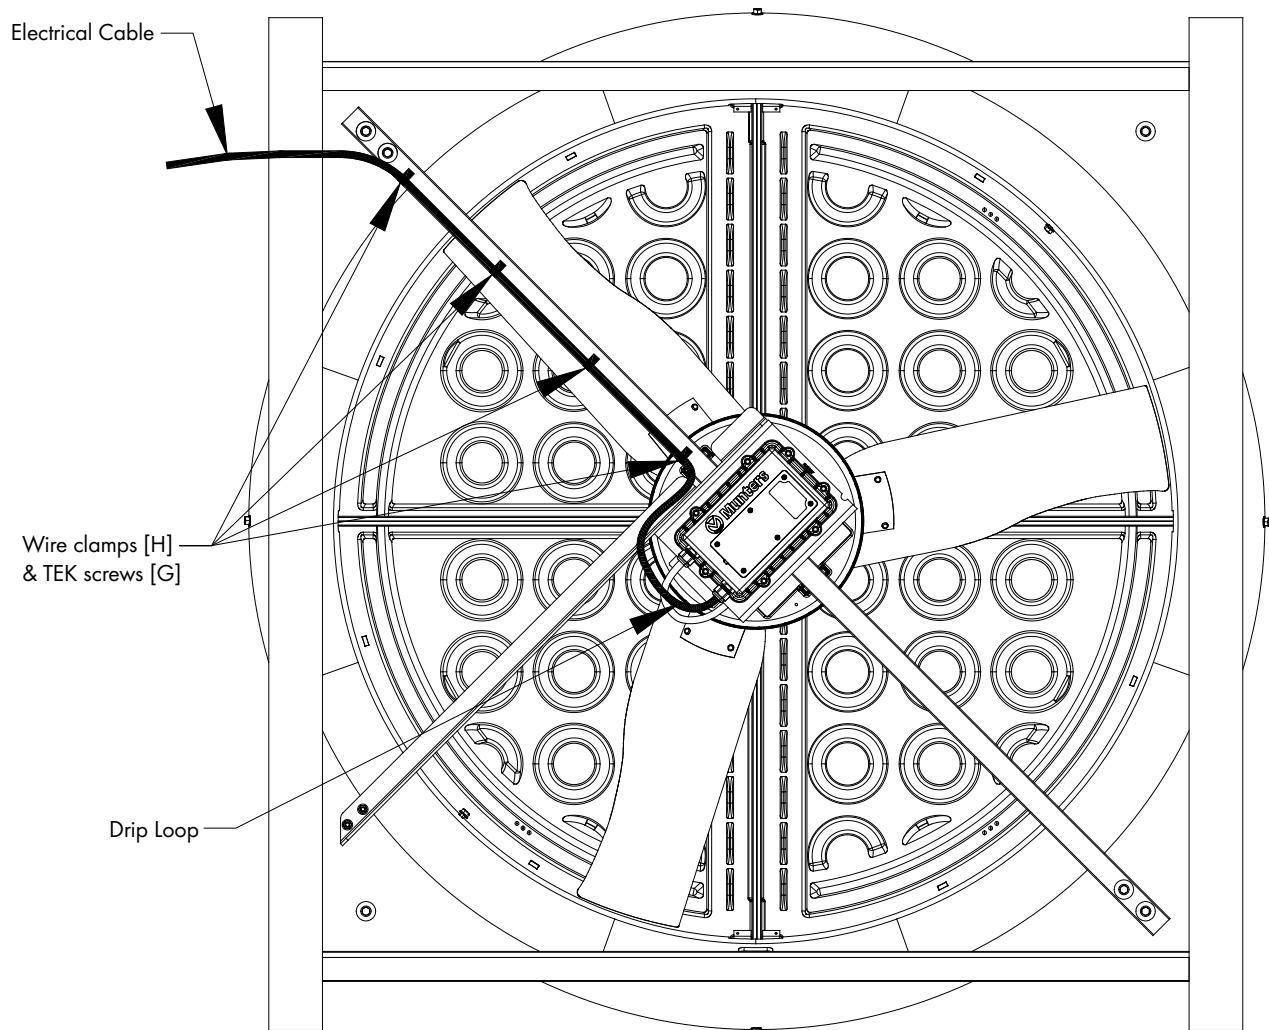

Figure 11A
The Munters Drive Kit comes with a coil of electrical cable that is pre-wired to controller. Find the end of the cable and route the cable up the strut and out of the fan. Create a drip loop in the bottom of the cable and then fasten it to the strut using (4) Wire Clamps [H] and TEK Screws [G]. Attach the new cable to the power supply for the fan. See Figure 11A and 11B. Continue on next page